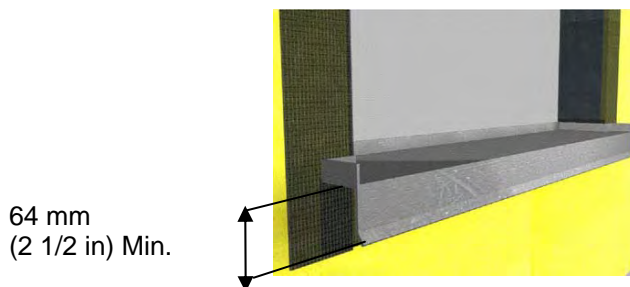

Figure 6
- a. Install a watertight pan flashing at all sill locations - Figure 6.
- c. The flashing shall extend a minimum of 64 mm (2 1/2 in) down over the face of the Outsulation Plus MD System - Figure 6.